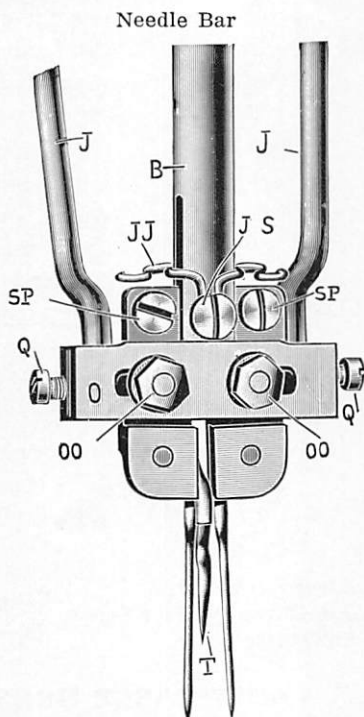

Fig. 17
Should the points of the needles as they descend upon the inside vibration appear outside of the grooves of the piercer, a very fine adjustment may be made by turning needle vibrating lever (J, see Figs. 17 and 18, screws Q) slightly to the left or right to swing needle holder (K) in the direction required; thus keeping the needles properly housed during their descent.